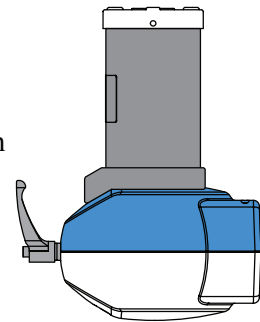

Figure 1 CalBox on scanner head.
4. Rotate the scanner head 180 degrees and fit the CalBox on top, see Figure 1.